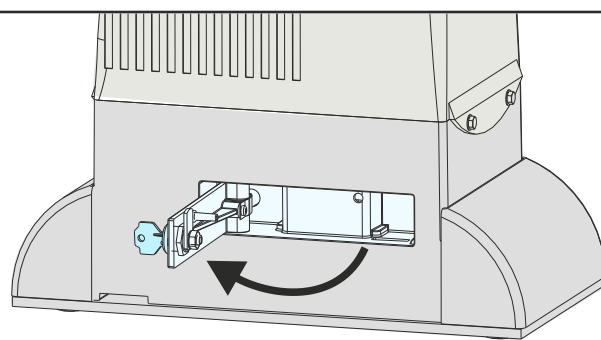

Fig. 33
- Pull the release lever until it stops, about 90° approximately (Fig. 33)